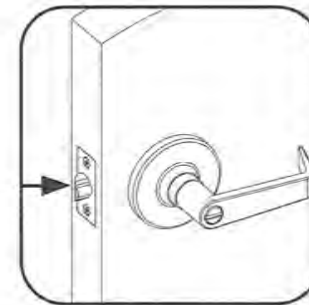

Figure 2
1.2: If hardware currently in door, please remove entire set. This door handle hardware can be used on another door not requiring a Pürleve hygienic handle. (**Fig. 2**)